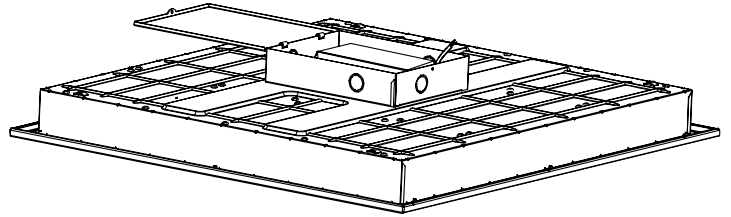

Fig.4
- Open the driver box of the troffer. (Fig.4)